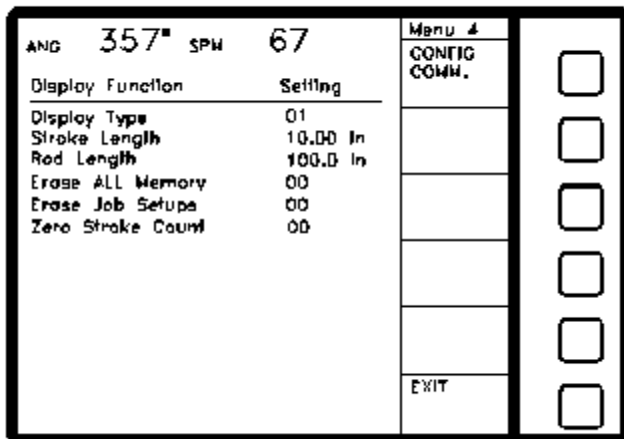

Figure 3.2: OmniLink 5000 Operator Terminal Config. Screen
- ◆ Push the softkey for “OPERATOR TERMINAL”. A screen like Figure 3.2 should